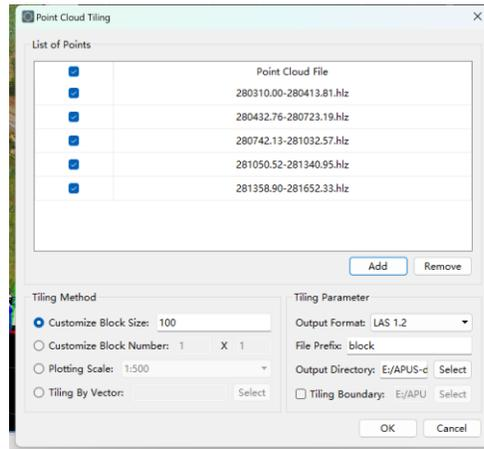

Figure 3-173 Point Cloud Framing
- Click <Toolbox> → <Data Processing> → <Tiling> → <Point Cloud Framing>, the pop-up window will list the point cloud files loaded by the software (Figure 3-173).